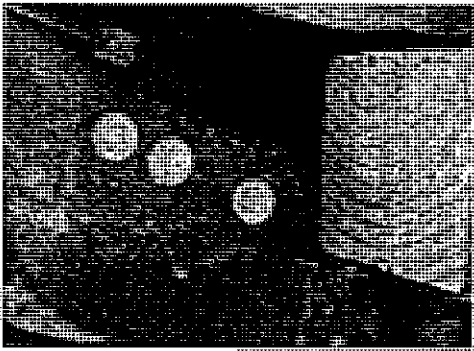

Figure 51
30. Change to the spray valve and spray 1 light coat of Noxudol 700 onto inner and outer frame rail of both driver and passenger side. Wipe away any drips from the bottom of the frame rail. See Figure 51.